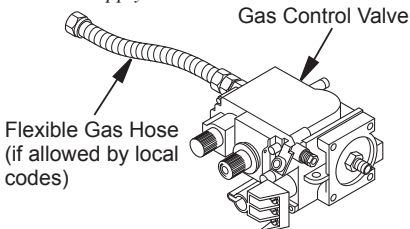

Figure 12 - Attaching Flexible Gas Hose to Heater Control Valve
1. Apply pipe joint sealant lightly to male threads of gas fitting (not provided). Connect approved flexible gas hose to inlet side of gas control (see Figure 12).